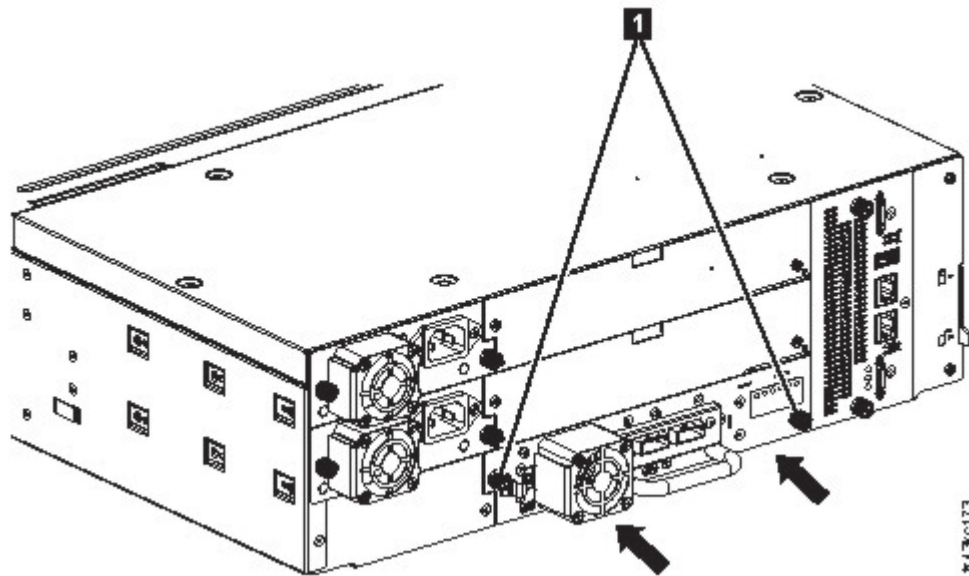

Figure 60. Installing a tape drive
3. Tighten the captive thumbscrews (1 in Figure 60 on page 118) with your fingers until the tape drive is secure.